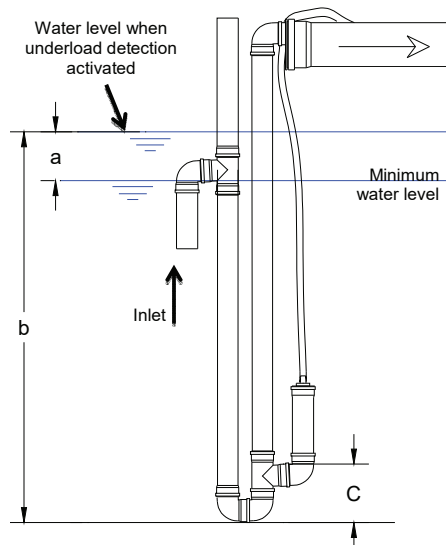

Figure 10 – Feed lifter, levels in preliminary cleaning
Offset c [cm] = measured level b [cm] – calculated level d [cm] (see *Figure 10, p 55*)
The first chamber (sludge reservoir/buffer), where the feed lifter is located, must be filled with water up to the height at which a cleaning cycle is to be triggered. This level depends on the geometry of the tank and the number of connected inhabitants (PE). The recommended buffer heights a (see *Figure 10, p55*) above the minimum water level are specified for the various configurations in the table below.